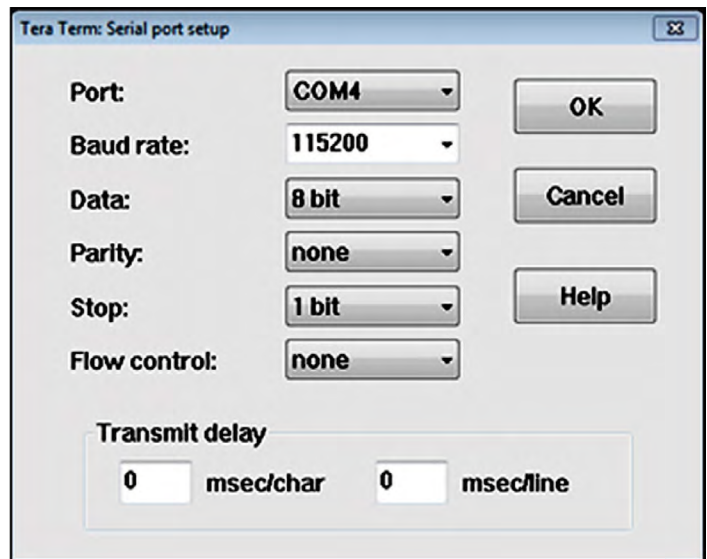

Figure 76: Configure the com port
6. On the *Tera Term* terminal window click on the *setup menu* and select *serial port* to configure the COM port, as shown in *Figure 76* below. Then, click OK